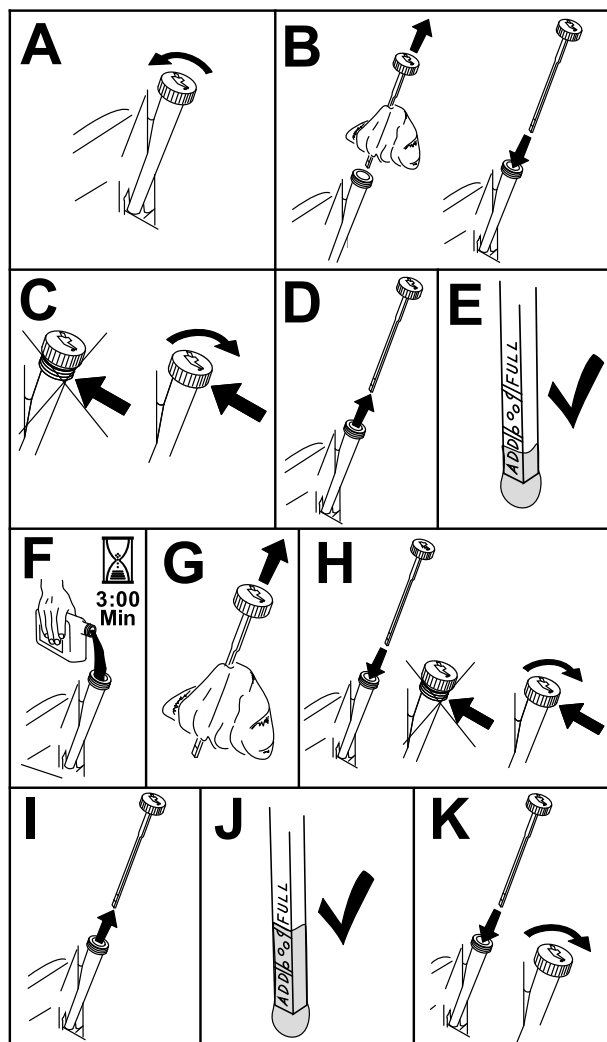

Figure 42
- To keep dirt, grass clippings, etc., out of the engine, clean the area around the oil-fill cap and dipstick before removing it (Figure 42).